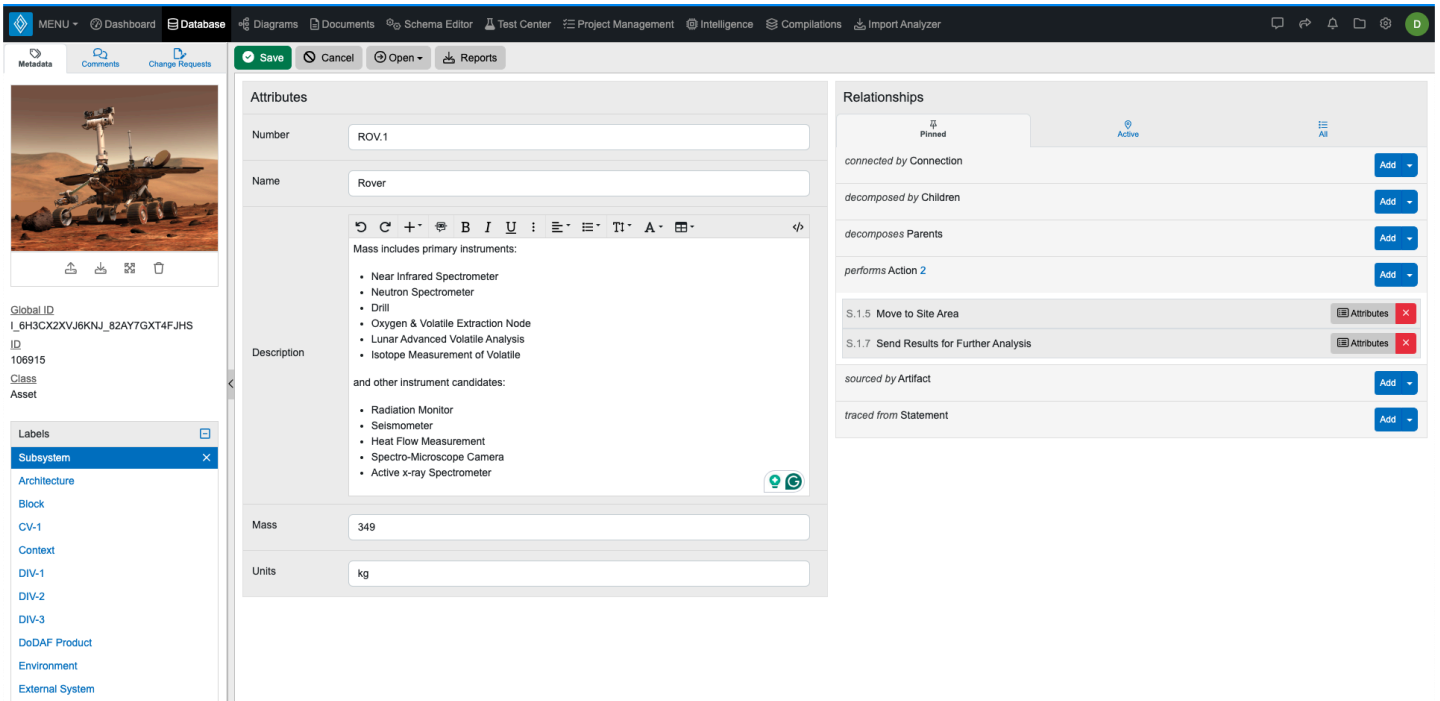

Figure 32. Implementing the Rover subsystem
- o *Note: Make sure to click the “Save” button on the top. The finished product should look similar to Figure 32.*